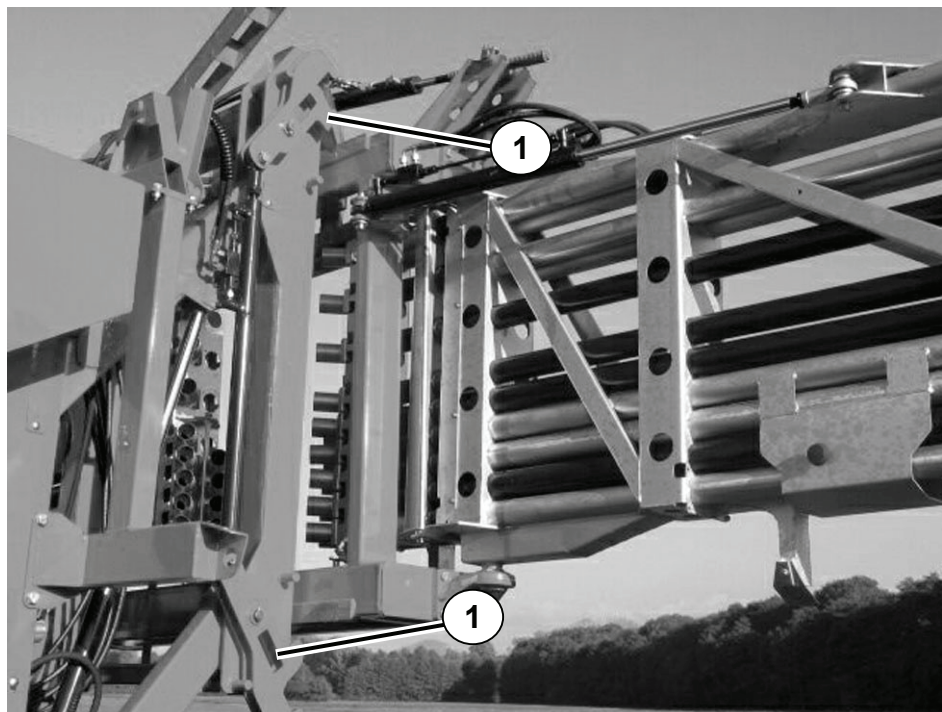

Fig. 33: Pendulum frame locks
- Is the pendulum frame lock (Fig. 33: Pos. 1) open so that the boom is able to swing freely?
- Open the pendulum frame lock (Fig. 33: Pos. 1) by pressing the key on the operating terminal for the spreading work.